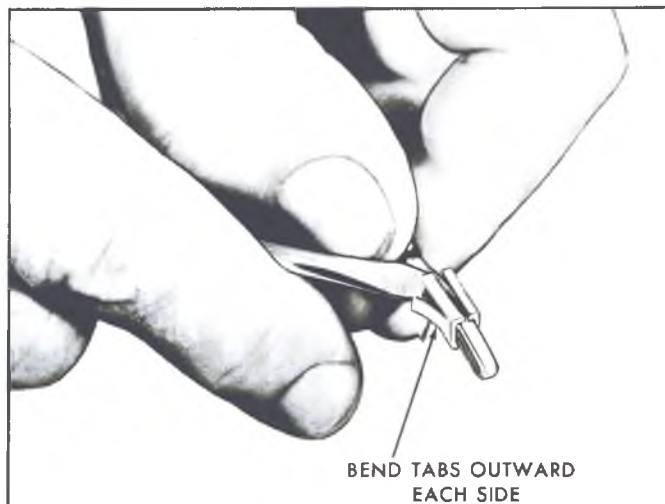

Fig. 86—Preparing Wire Retaining Tabs for Installation
5. Bend the wire retaining tabs slightly outward on each wire in the wiring harness as shown in Figure 86; this will provide proper retention of the wire in the half-moon connector.